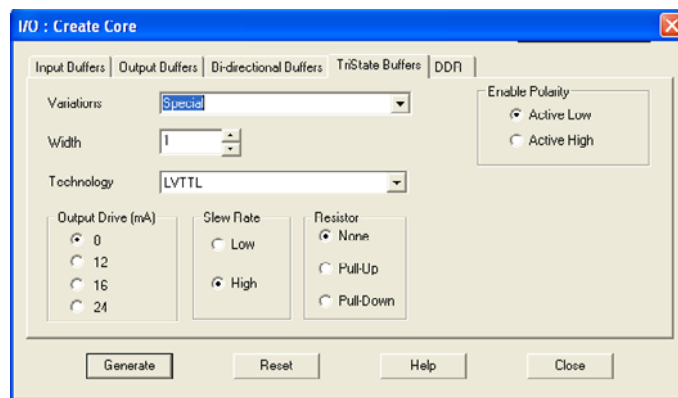

Figure 8 • Tristate Buffer Selection
4. If the Special Variation is selected, the following options will be available depending on the technology (Figure 8):
1. Select the **Bidirectional Buffers** or **Tristate Buffers** tab (Figure 8).